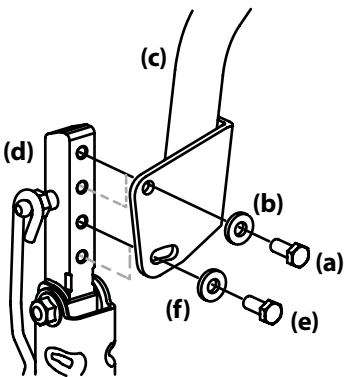

Figure 4-6
- While supporting the drive control lever to keep it from falling, remove the hex screw (e) and flat washer (f) from the bottom of the drive control lever (c) and lower arm (d). Refer to Figure 4-6.
- If not already loose, loosen the hex screw (e) and rotate the control lever either forward or rearward to the desired position. See Figure 4-6.